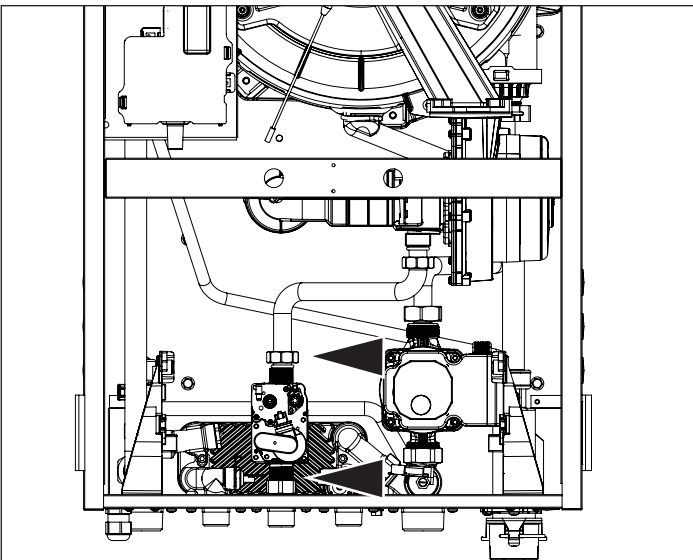

Figure 92 - Disconnect the Gas Line
- Remove the two nuts above and below the gas valve. See Figure 92.